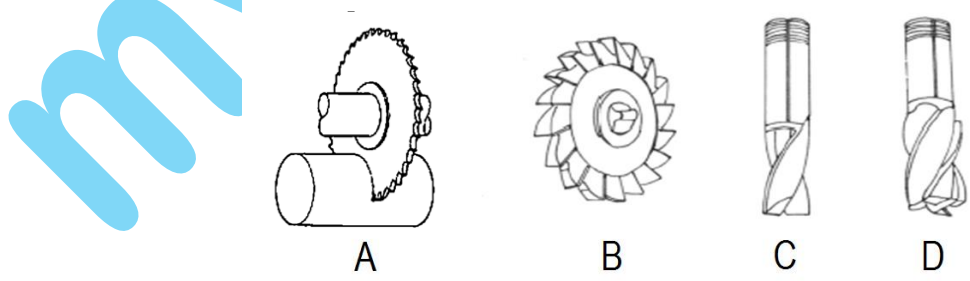

FIGURE 4
12.1 FIGURE 4 shows different types of milling cutters.
- 12.1.1 Name the FOUR milling cutters shown in FIGURE 4. Write only the answer next to the letter (A–D) in the ANSWER BOOK. (4)
- 12.1.2 State ONE use for each of the milling cutters shown in FIGURE 4. (4)